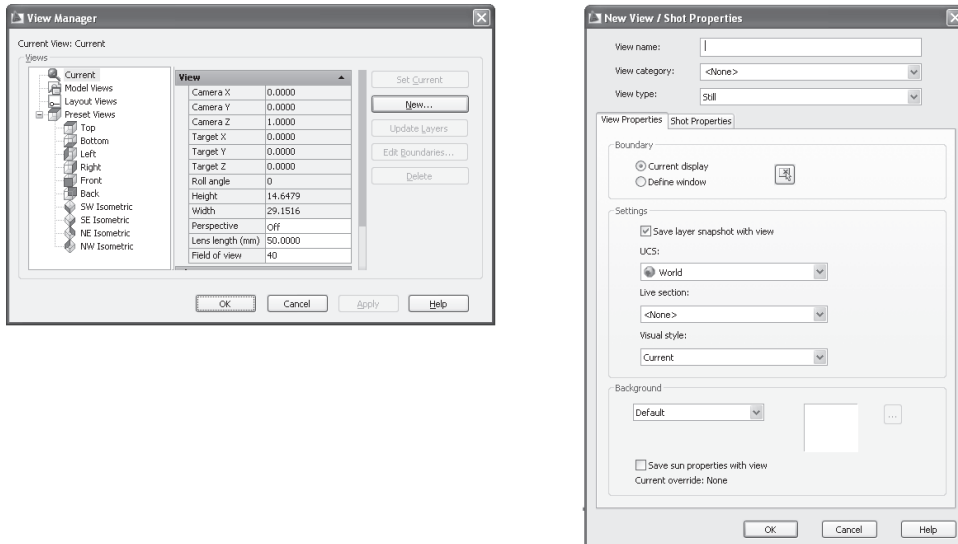

Figure 6.22
Enter a name for your shot in the View Name text box at the top of the dialog box before you set up your shot. You can then select from a set of predefined movement types from the Movement Type drop-down list (see Figure 6.22).
To save a view, choose View → Named Views from the Menu Browser, or enter **V..J** at the command prompt. (See the left image in Figure 6.20.) The View Manager dialog box appears, as shown in Figure 6.22.
3. When you see that line, you can click to move the grip along that line (shown earlier in Figure 6.22). As you move the grip, you can use the camera preview window to help guide your grip location.